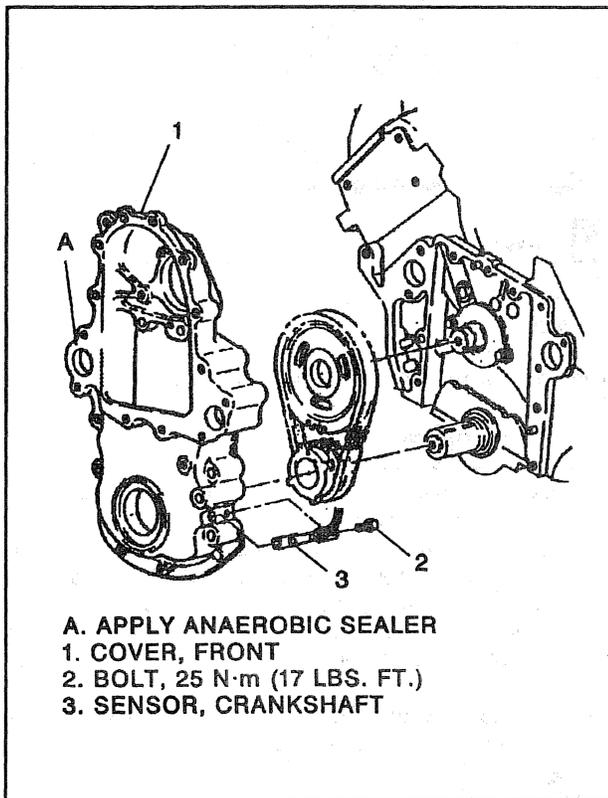

Figure 22—Front Cover and Components
Remove or Disconnect (Figures 22 and 23)
- Apply a 2-mm (3/32-inch) bead of anaerobic sealant (GM P/N 1052357) or equivalent to the front cover sealing area shown in (figure 22).